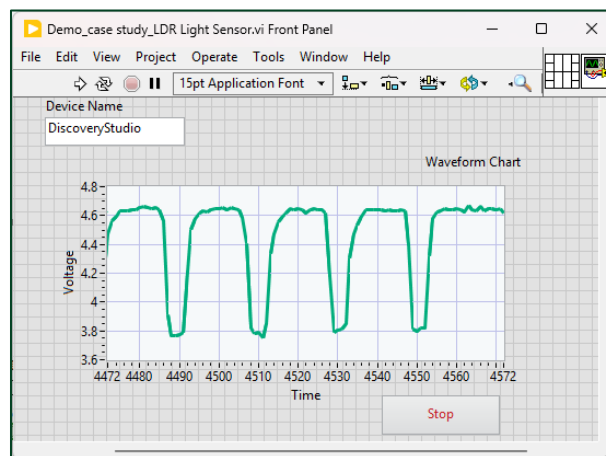

Figure 8. VI Front Panel
- 2.2. Modify the front panel shown in **Figure 8**. Inside **Device name** String Control write your corresponding **Device** name from **Table 2**.